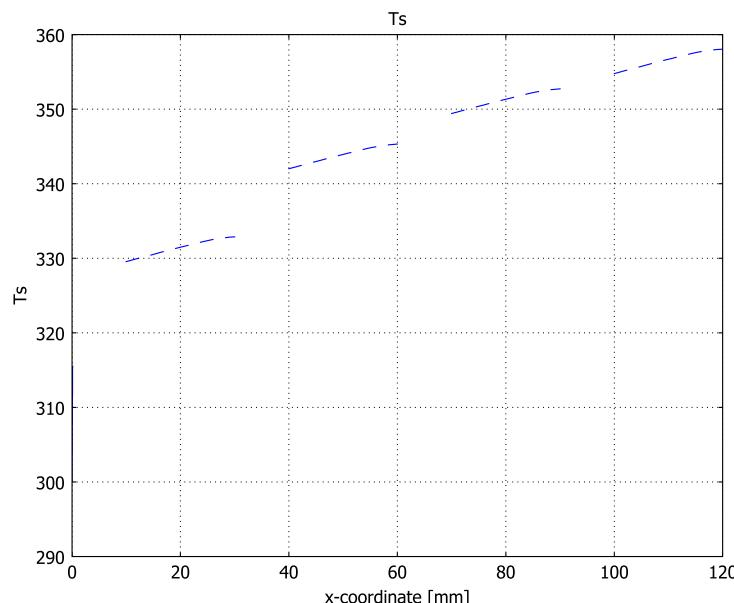

Figure 2-12: 1D model results for the surface temperature of the ICs (dashed line) and the average temperature of the fluid (solid line).
Figure 2-12 shows the results of the 1D model for the ICs' surface temperature.
- 4** To reproduce Figure 2-12, go to the **Postprocessing** menu and select **Domain Plot Parameters**.